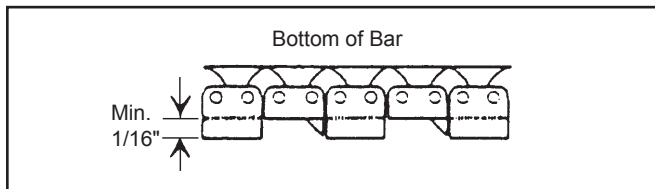

Figure 4. Chain Segment Wear
1. Using adjustable calipers, measure several chain segments as illustrated in Figure 4.